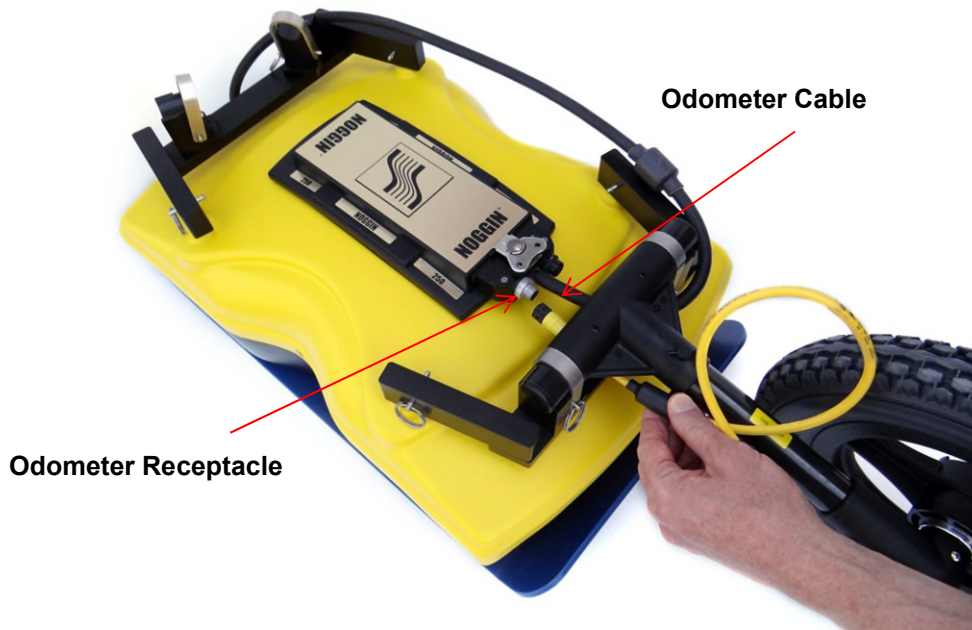

Figure 2-46: Connecting yellow odometer cable to odometer receptacle on main cable
- Connect the yellow odometer cable to the Noggin connector receptacle (Figure 2-46).